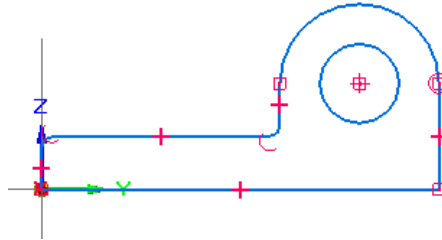

Figure 2-56 Final profile for Tutorial 3
4. Move the cursor over the center point of the arc and click to define this point as the center point of the circle when the concentric relationship handle is displayed. This completes the profile. The final profile for Tutorial 3 is shown in Figure 2-56.